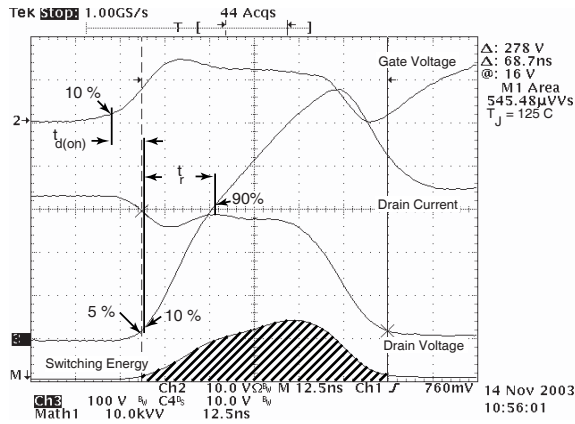

Figure 18, Turn-on Switching Waveforms and Definitions
① Repetitive Rating: Pulse width limited by maximum junction temperature
② Pulse Test: Pulse width < 380 μs , Duty Cycle < 2%
③ See MIL-STD-750 Method 3471
④ Starting $T_J = +25^\circ C$, $L = 2.12mH$, $R_G = 25\Omega$, Peak $I_L = 35A$
⑤ dv/dt numbers reflect the limitations of the test circuit rather than the device itself. $I_S \leq -35A$ $di/dt \leq 700A/\mu s$ $V_R \leq 500V$ $T_J \leq 150^\circ C$
⑥ E_{on} includes diode reverse recovery. See figures 18, 20.